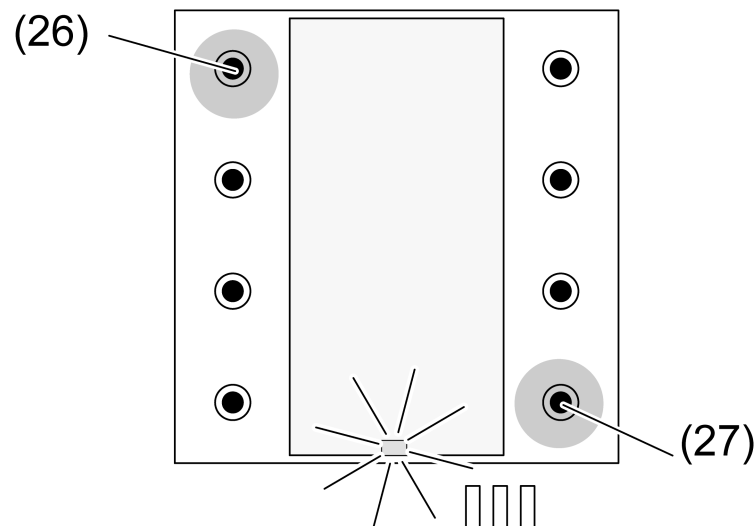

Figure 8: Buttons for activating Programming mode
- Activate Programming mode. Press and hold down the push-button at the top left of the basic device (26) (see figure 8). Then press second push-button at the lower right (27).